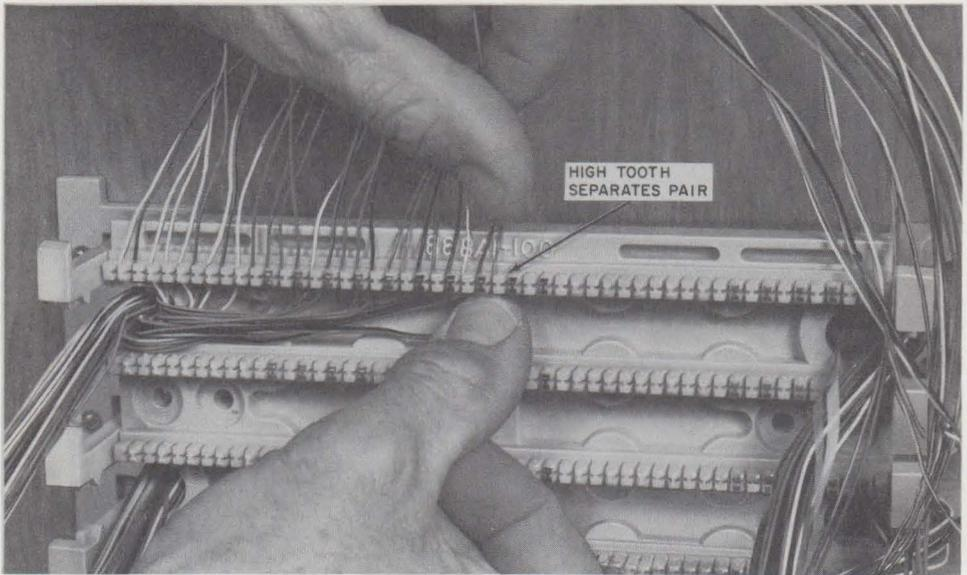

Fig. 16—Placing Conductors in Index Strip
3.11 The conductors of a 25-pair cable or a binder group are placed in the index strip slots following the even-count color code starting with white-blue in slot 1, blue-white in slot 2, white-orange in slot 3, etc (Fig. 16). The conductors should not be taut; some slack is desirable. The high tooth on the index strip splits the conductors of a pair. Light finger pressure is sufficient to cause the conductor to be held in the index strip. Place all 25 pairs and check for split pairs, missed slots, etc.